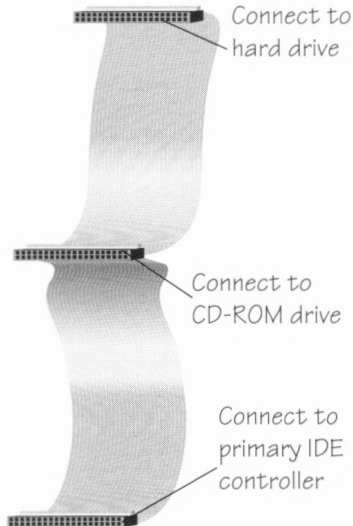

Fig. 8: IDE ribbon cable
8. Locate the IDE ribbon cable which connects your hard drive to its IDE controller. (See Figure 8.) If your present IDE cable has at least three connectors on it, proceed to step 9. If it does not, follow the instructions for replacing it below.